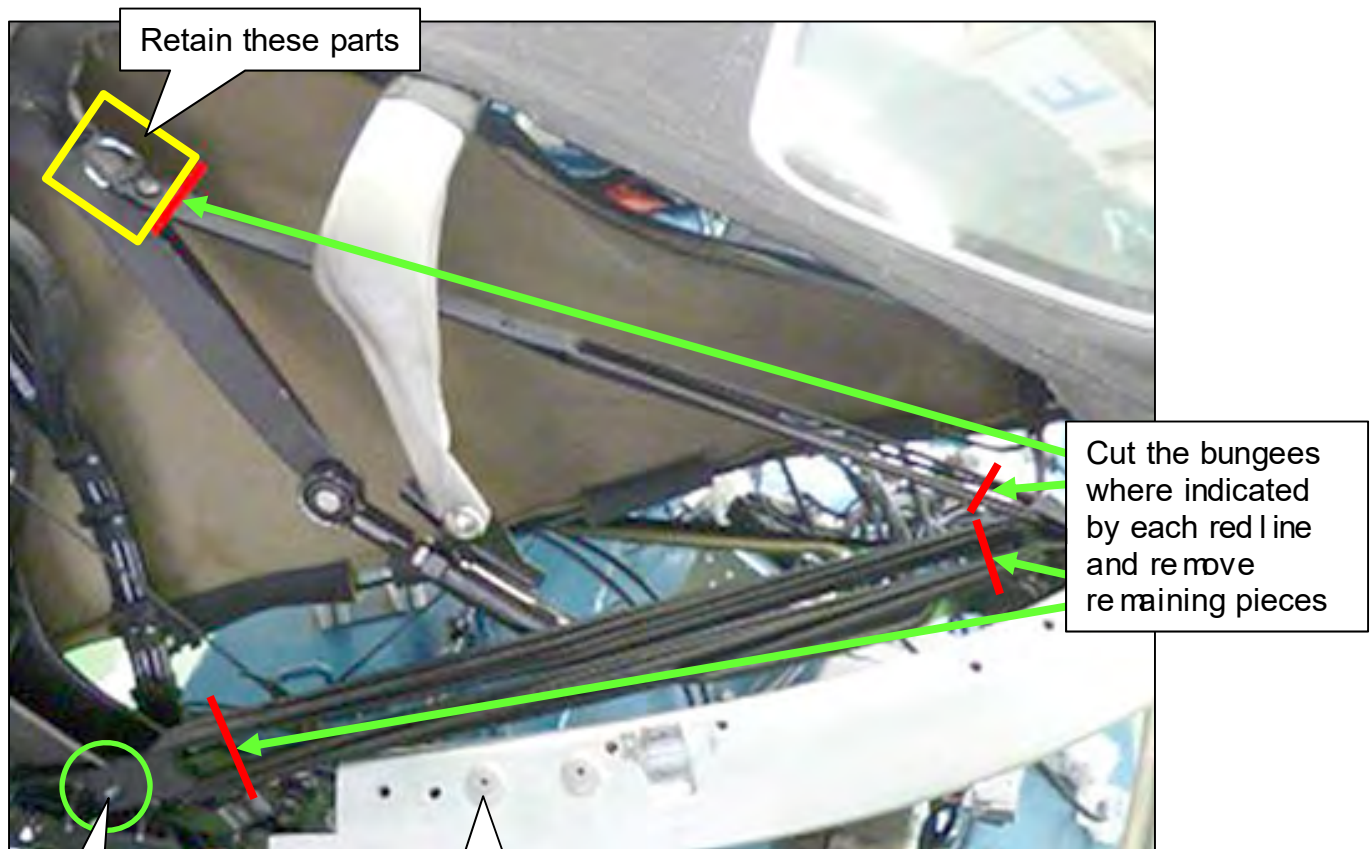

Figure 11
10. Cut through the bungees where indicated in Figure 11 with an appropriate tool.
12. Remove the TORX screw indicated in Figure 11 that retains the bungee strap, and place the screw aside.
HINT: Refer to Figure 11 for the location of the middle rivet.